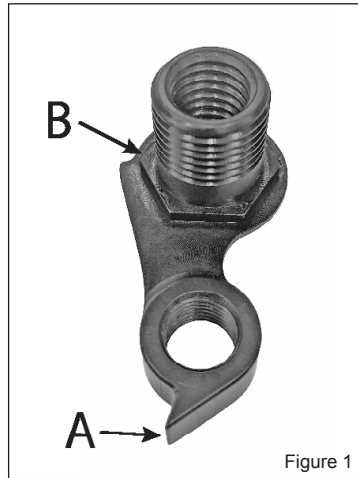

Figure 1
4. Note the position of the derailleur and how it fits with the tab on the derailleur hanger. (Figure 1-A)
7. Replace the R.A.T. derailleur hanger with the Robert Axle Project hanger. Lightly grease all threads, internal and external. Note the hanger has a hex shape that mates into the inside face of the frame. (Figure 1-B)
9. Reinstall derailleur to the derailleur hanger. Pay attention that the derailleur is properly seated against the B-screw stop (Figure 1-A)